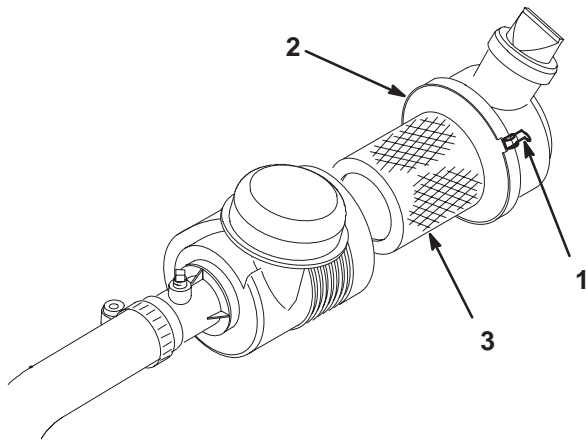

Figure 35
1. Release the latches securing the air cleaner cover to the air cleaner body (Fig. 35). Separate the cover from the body. Clean the inside of the air cleaner cover.
3. Reinstall the cover and secure the latches (Fig. 35).